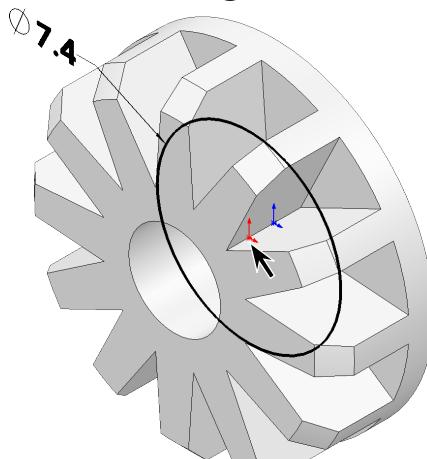

Fig. 20
Step 2. Click **Circle**  (S) on the Sketch toolbar.
Step 3. Sketch **circle at the Origin** , **Fig. 20**.
Step 4. Click **Smart Dimension**  (S) on the Sketch toolbar.
Step 5. Dimension **diameter 7.4**, **Fig. 20**.